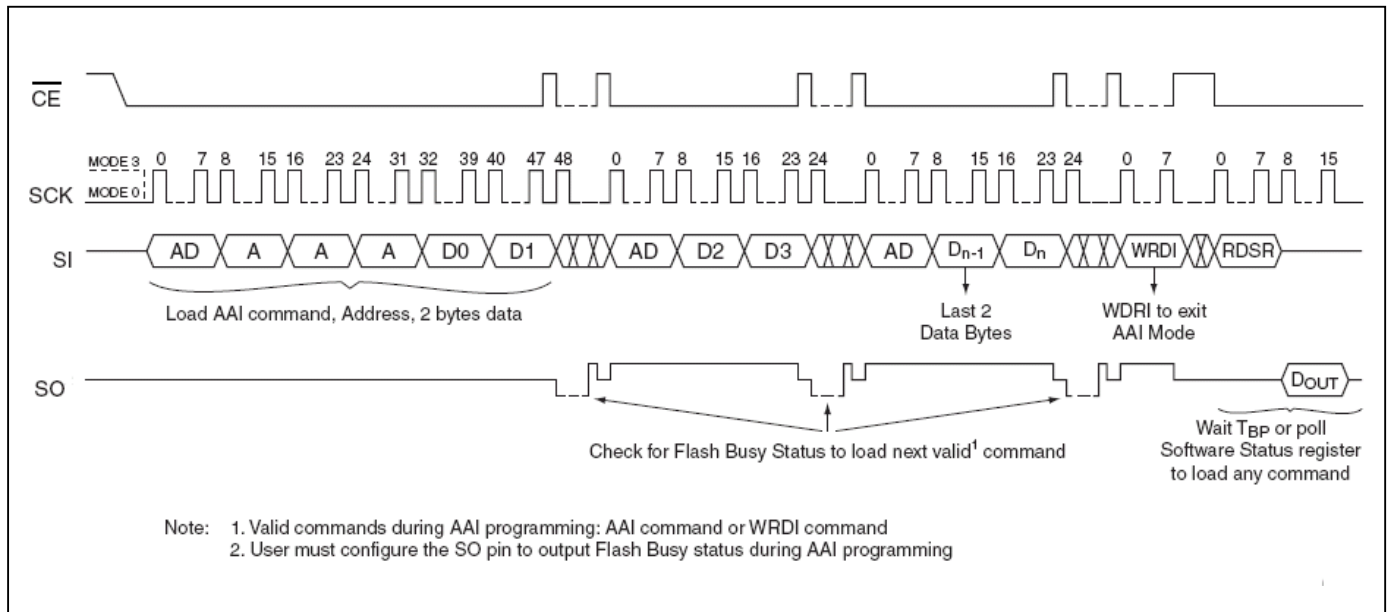
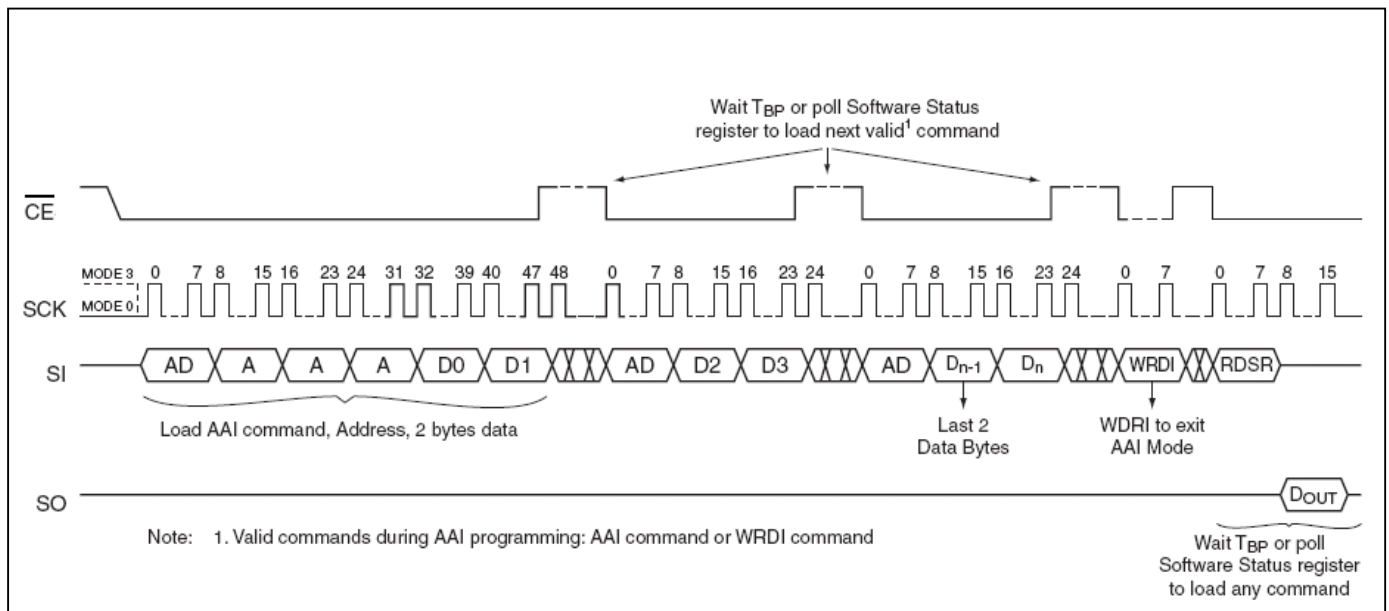

Figure 8: AAI Word Program Sequence with Hardware End of Write Detection
Figure 9: AAI Word Program Sequence with Software End of Write Detection
7) to LSB (bit 0). The first byte of data (D0) will be programmed into the initial address $[A_{23}-A_1]$ with $A_0=0$; the second byte of data (D1) will be programmed into the initial address $[A_{23}-A_1]$ with $A_0=1$. \overline{CE} must be driven high before the AAI WORD program instruction is executed. The user must check the busy status before entering the next valid command. Once the device indicates it is no longer busy, data for next two sequential addresses may be programmed and so on. When the last desired byte had been entered, check the busy status using the hardware method or the RDSR instruction and execute the WRDI instruction, to terminate AAI. User must check busy status after WRDI to determine if the device is ready for any command. Please refer to Figure 8 and Figure 9.